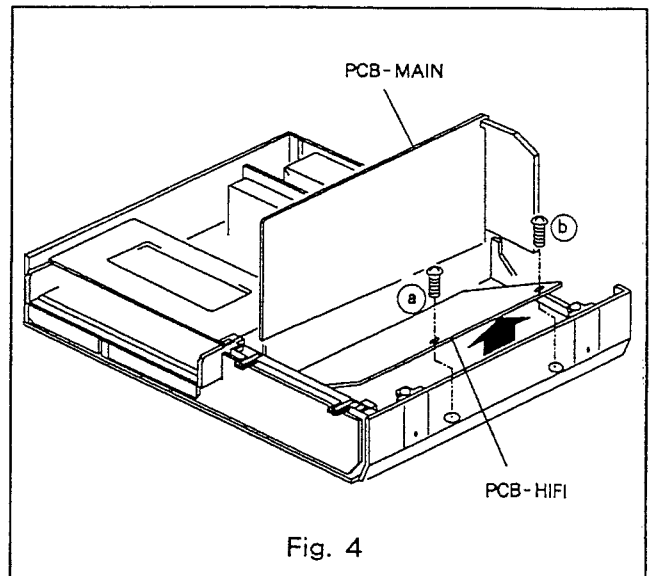

Fig. 4
- b. Remove the two screws (Ⓐ and Ⓑ) retaining the PCB-HIFI, as shown in Fig. 4.